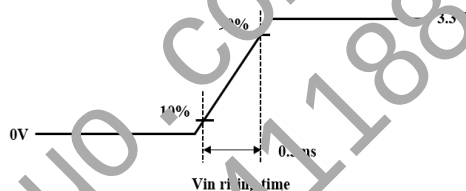

Figure 4. In us1 Measure Condition
3. Measure condition (Figure 4)